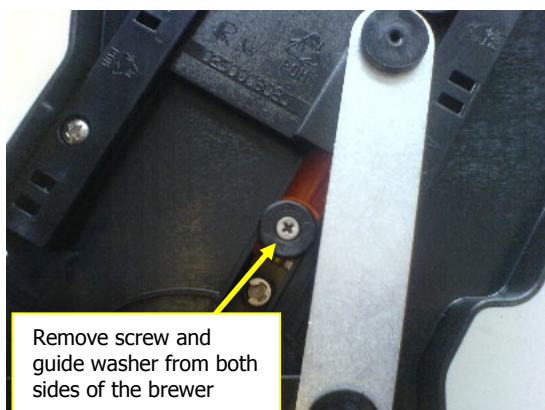

Fig. 4
- 5) Remove screws and plastic guide washers from both sides of the brewer (Fig. 4)